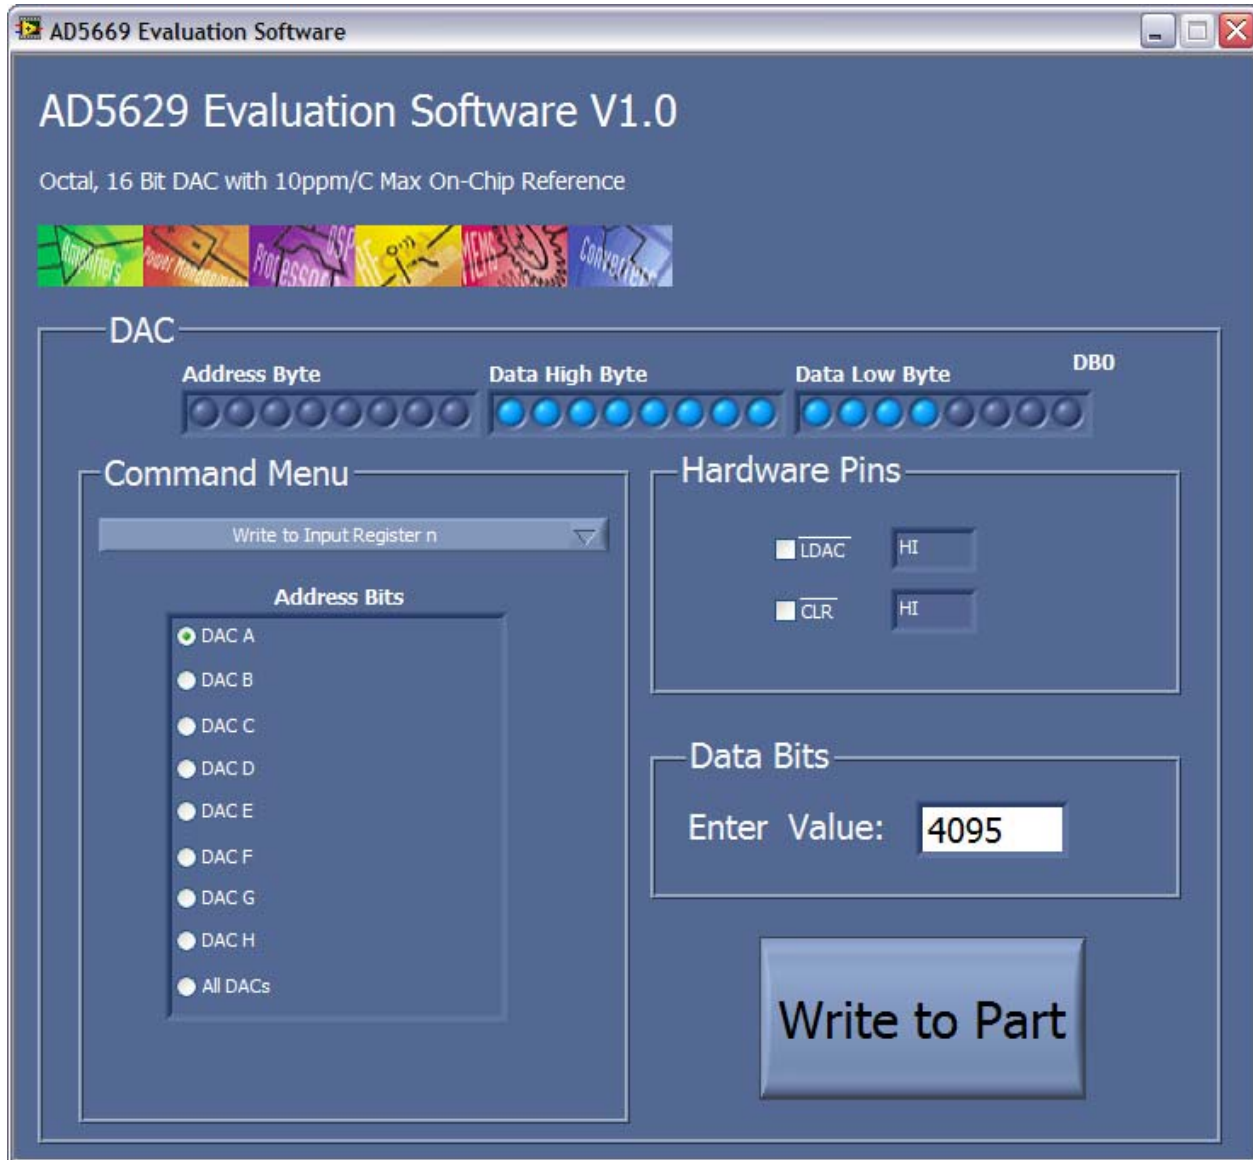

Figure 5. AD5629 Evaluation Board Main Window
5. The main window of the AD5629 evaluation software then opens, as shown in Figure 5.
The AD5629 main window opens, as shown in Figure 5. The data programmed into the 24 bit input shift register is displayed. You can select the command bits, the address bits and the data bits by clicking the appropriate button under each area.